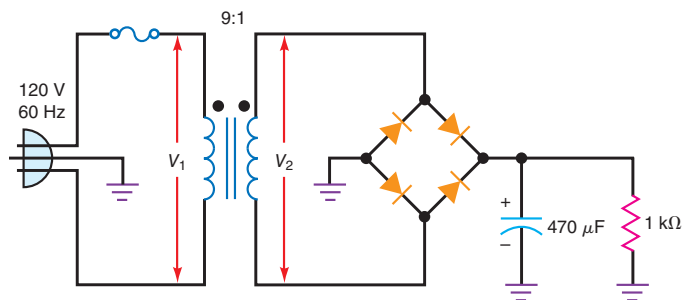

Figure 30-29
- 30.12** What is the dc output voltage in Fig. 30-29? The ripple? Sketch the output waveform.
- 30.13** If the line voltage decreases to 105 V in Fig. 30-29, what is the dc output voltage?
- 30.15** What is the peak inverse voltage in Fig. 30-29?
- 30.16** An F-25X replaces the transformer of Fig. 30-29. What is the approximate peak voltage across the secondary winding? The approximate dc output voltage? Is the transformer being operated at its rated output current? Will the dc output voltage be higher or lower than normal?
- 30.17** What is the primary current in Fig. 30-29?
- 30.18** If the filter capacitor in Fig. 30-29 is open, what is the dc output voltage?
- 30.19** If only one diode in Fig. 30-29 is open, what is the dc output voltage?
- 30.20** If somebody builds the circuit of Fig. 30-29 with the electrolytic capacitor reversed, what kind of trouble is likely to happen?
- 30.21** If the load resistance of Fig. 30-29 opens, what changes will occur in the output voltage?